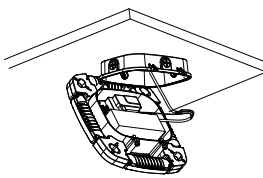

Figure 2-6
6. Connect ground/L/N wire inside driver rear cover. Take waterproof measures after wiring. Figure 2-6